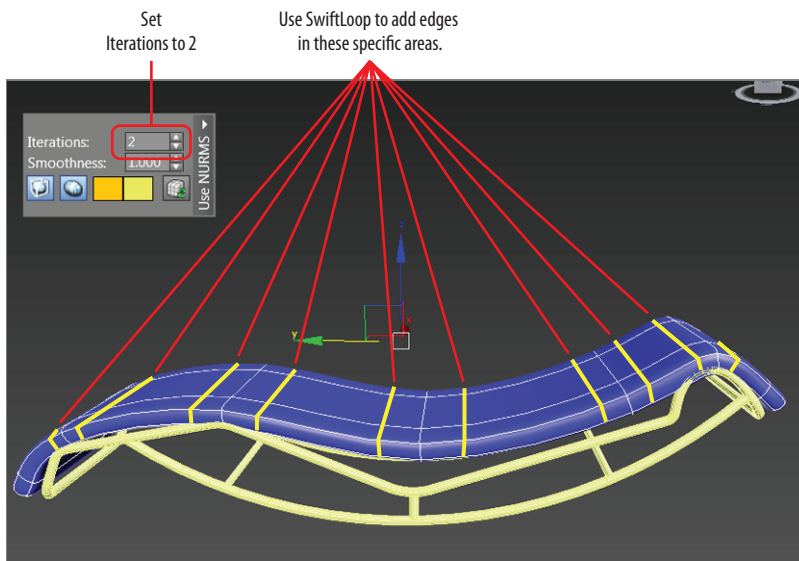

FIGURE 4.29 Turning up NURMS iterations and using SwiftLoop to smooth out the model
7. Go to the Graphite Modeling Tools tab > Edit > Use NURMS. In the Use NURMS panel, set Iterations to 2, as shown in Figure 4.29. NURMS has smoothed out the model and molded the lounge-chair cushion to the frame, but it still needs some work.
8. Use SwiftLoop to add edge loops as shown in Figure 4.29. This will help to mold the cushion to the frame.